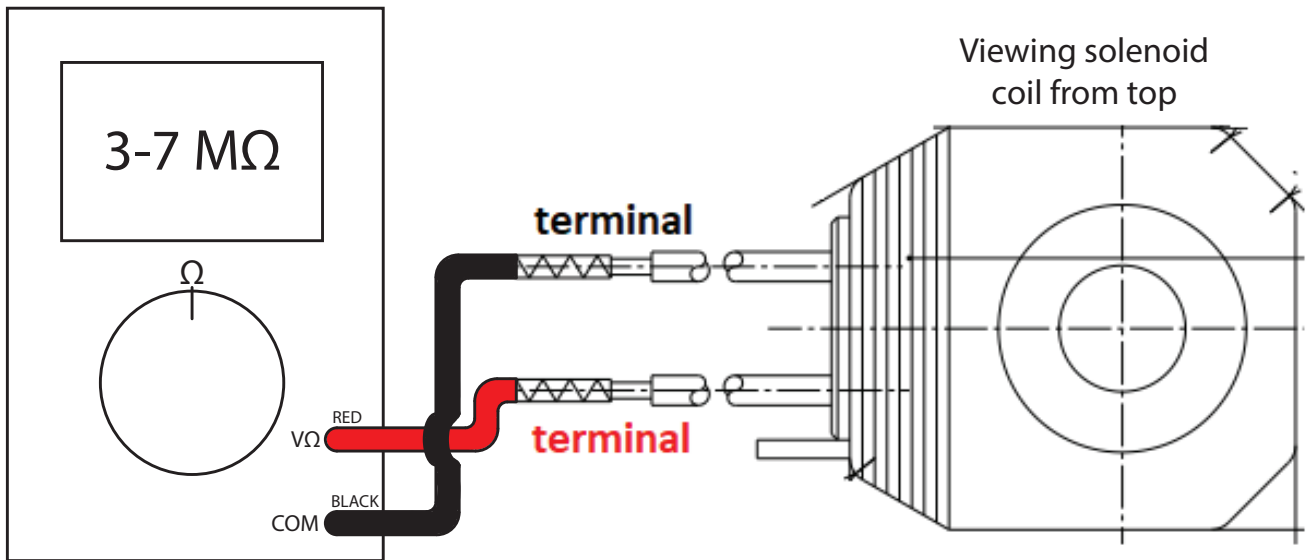

Figure A1-3: Testing 230V Solenoid Coil - Step 1
Step 1: Connect the BLACK multimeter lead to the upper lead from the coil (viewed from the top). Refer to Figure A1-3. Connect the RED multimeter lead to the other lead from the coil.